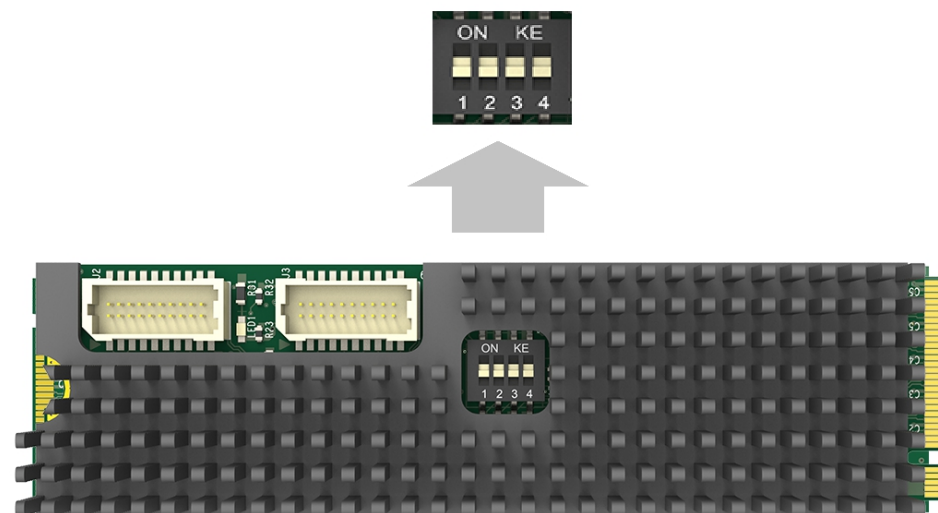

Figure2. DIP switch
5. If multiple cards are to be installed, we suggest that you set card number of each card before installation. There is a DIP switch on each card marked in binary from 0 to 1111 which enables you to set specific number for each card according to their needs, as shown in Figure2. After the ID numbers are set, users can install the cards according to steps 3-4.